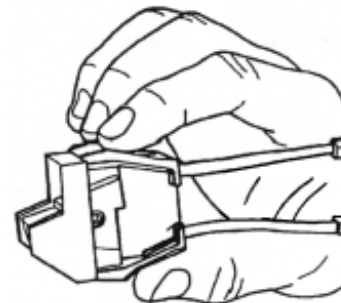

Figure 3
4. Remove the switch from the casting by reaching through the access hole and squeezing together the top and bottom corners of the switch back. See Figure 3. This will release the retaining fingers and allow the switch to be pushed out the front of the headstock. Move the switch up and down, while pushing outward as you depress the retaining fingers. This will aid in removing the switch from the casting.